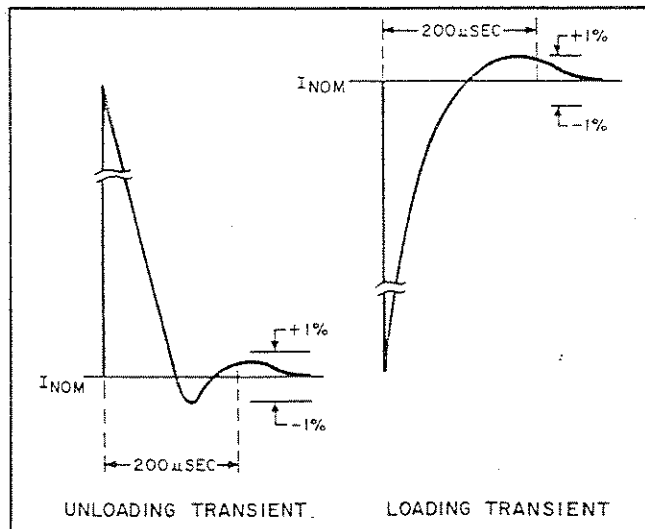

Figure 5-6. Load Transient Recovery Time, Waveforms
- f. Adjust 25K potentiometer until a stable display is obtained on oscilloscope. Waveform should be within the tolerances shown in Figure 5-6. Output should return to within  $\pm 10\text{mV}$  (Model 6177B) or  $\pm 25\text{mV}$  (Model 6181B) of nominal value in less than 200 microseconds.